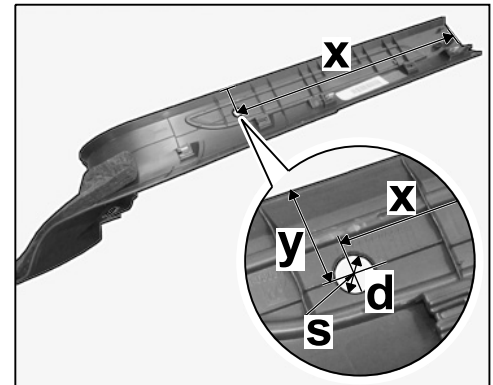

Figure 21
3.2 Drill cable hole ($\varnothing = 18$ mm) in the (inner) door sill trim (\Rightarrow Figure 21).
3.2.1 Mark point of intersection (\Rightarrow Figure 21 -S-) of dimensions x and y on the inner door sill trim.